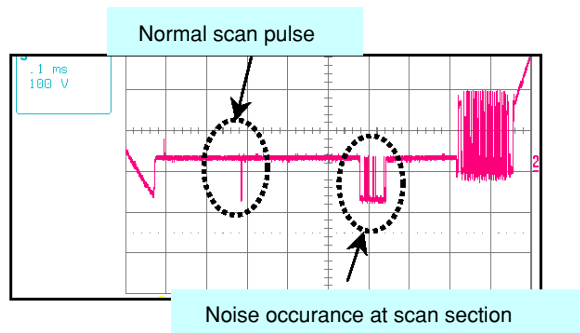

Fig. 6 When the Y drv B/D top or bottom cable is damaged
- Waveform : As shown in Fig. 6.